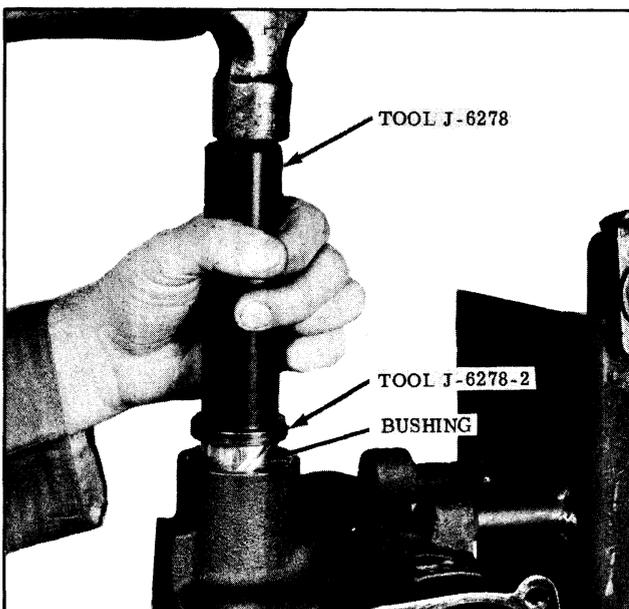

Fig. 5-48 Installing Bushing
1. If pitman shaft bushing was removed, place Tool J-6278-2 over Tool J-6278, slide the new bushing on the tool, and drive bushing into housing. (See Fig. 5-48)